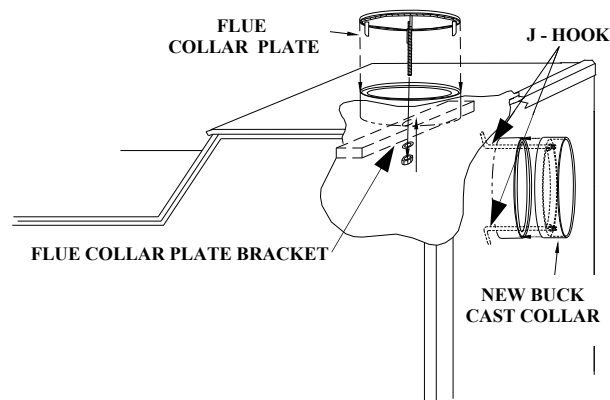

Figure 16.
7. Next fasten New Buck's Cast Collar Part number MA6CHIMNB to the flue exit of stove to be used, using the J hook's provided. Position collar with gasket towards the unit, tighten the J hook's **Firmly** secured. (See Figure 16).
8. Fasten New Buck's Flue Collar Plate to the exit not used for burning stove. **Firmly** secure the Flue Collar Plate Bracket with the nut and washer provided. (See Figure 16).
- (c) Secure each section to each other using at least three (3) sheet metal screws or rivets.
- (d) Use three (3) sheet metal screws to fasten pipe to New Buck Cast Collar collar on heater.(See Page 21 Figure 16)